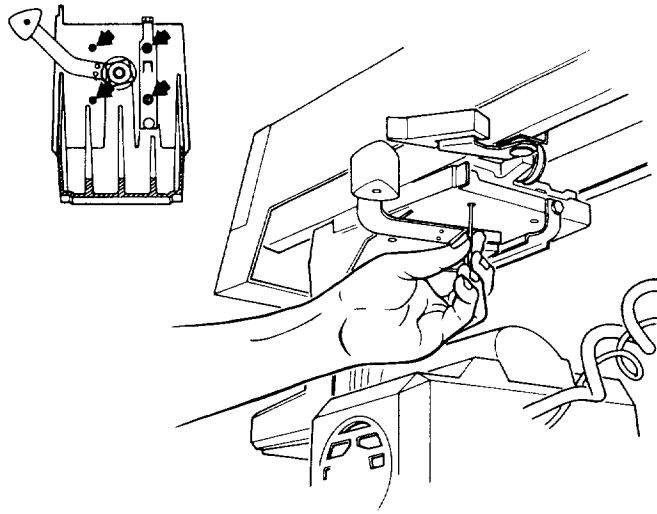

Fig. 78
7. Loosen the four screws under the *yoke* using a 1/8 inch hex-L wrench and pliers if necessary. (Figure 78)